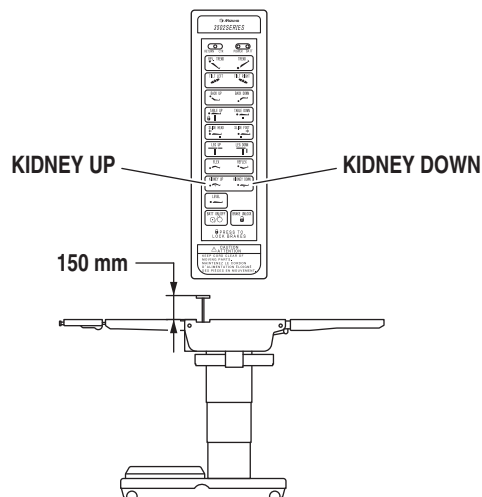

Figure 2-16. Kidney Lift Positioning
i. Kidney Lift To raise the built-in kidney lift, press the KIDNEY UP button (figure 2-16). Up to 150mm of lift can be achieved. Press the KIDNEY DOWN button to lower the kidney lift.